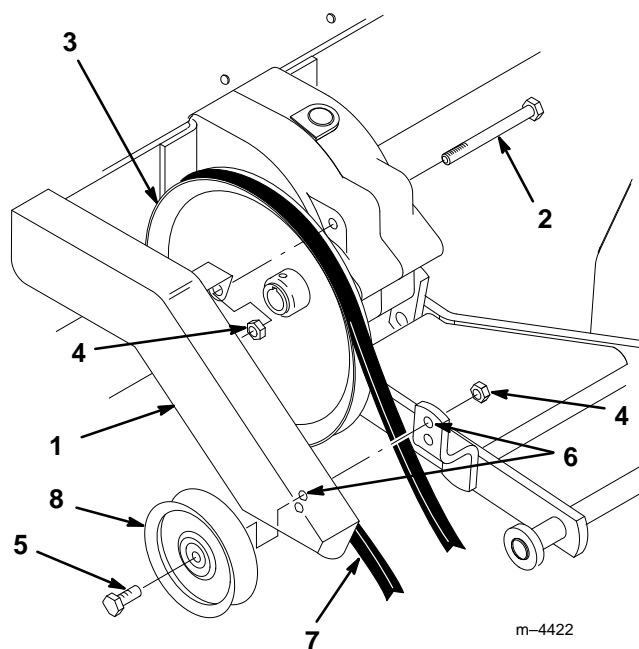

Figure 4
5. Remove the nut from the gearcase bolt located just above the input shaft (Fig. 4). The belt guard mounts to this bolt.
8. Install the idler pulley on the 3/8–16 x 2" (51 mm) bolt so that the extended hub of the pulley is toward the tiller lift frame. Route the belt under the idler pulley, and insert the bolt through the upper belt guard hole and upper hole in the tiller lift frame (Fig. 4). Tighten the nut securely.